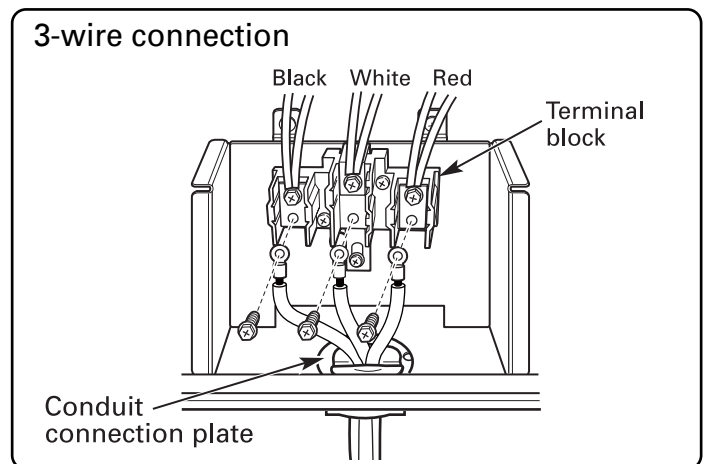

FIGURE 8
1. Remove the lower 3 screws from the terminal block and retain them. (Refer to Figure 8.)